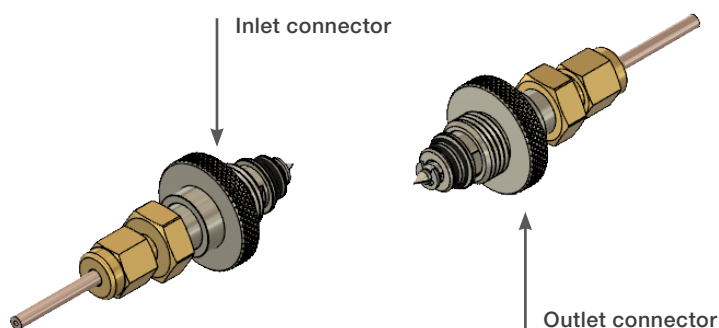

Figure 2: Inlet and outlet connectors
4. Plumb the Click-On connectors into each end of the gas line (see Figure 2).